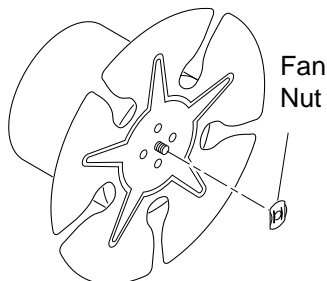

Figure 7 - Removing Fan Nut from Motor Shaft
3. Use pliers to remove the fan nut from front of motor shaft (see Figure 7).